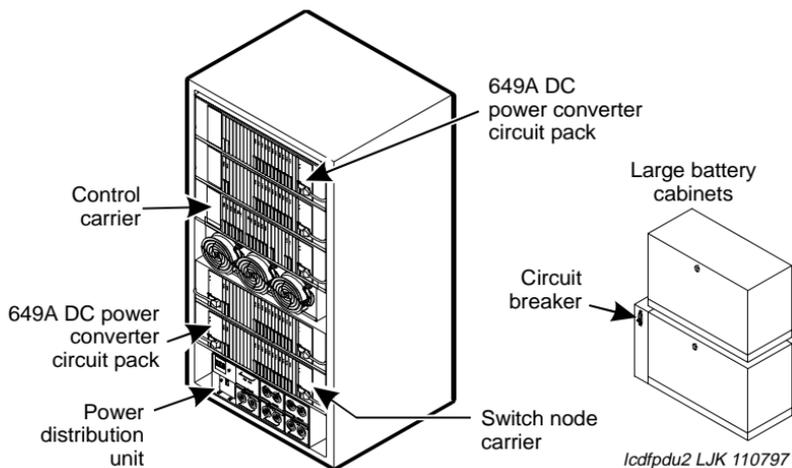

Figure 28. DC Power Distribution in Multicarrier Cabinets
Figure 28 shows the DC-power distribution in some Multi-Carrier Cabinets with extended battery backup (large batteries). In R7r and later systems, the power distribution cables are on the right side of the cabinet only. This is because the 649A DC power converter circuit pack replaces 2 power converters at either end of each carrier. Switch node (SN) carriers require two 649As and two cables.